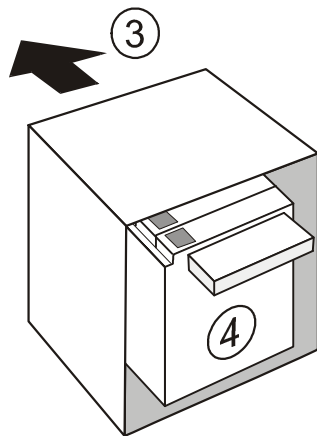
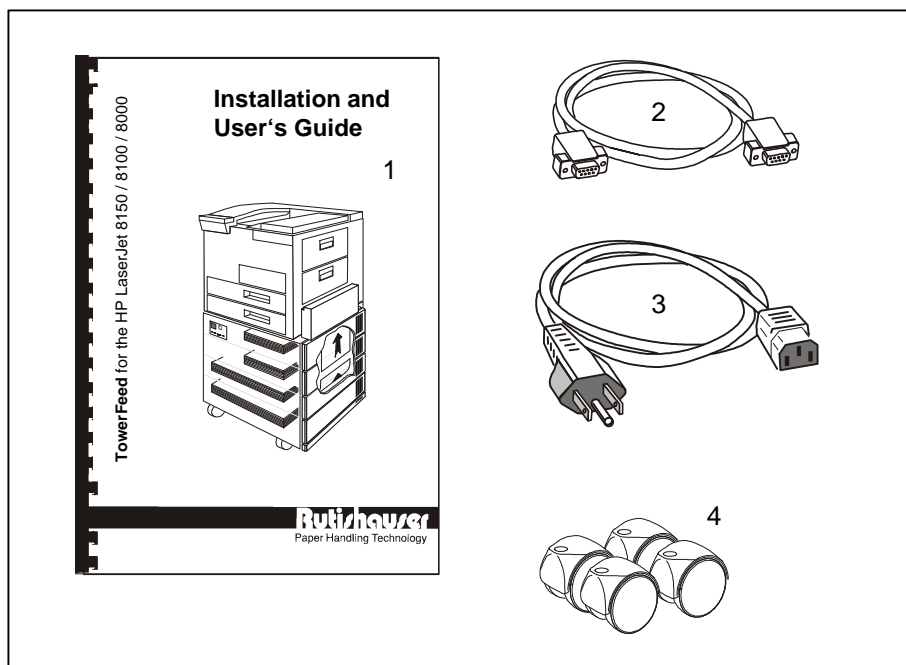

Fig. 2 Lay unit on side and carefully pull out TowerFeed from the bottom part of the shipping container.
Fig. 7 Accessories Box Contents
- Remove the accessories box ⑨. It contains the rollers, the power and data cable, one diskette and this User's Manual (Fig. 7).
- Remove the four blue shock absorbers from the feed adapter and the upper edges of TowerFeed ⑤-⑧.
- Lay the unit on its side and carefully pull off the lower part of the shipping container ③+④ (Fig. 2), or enlist the help of another person to lift TowerFeed out of the container.